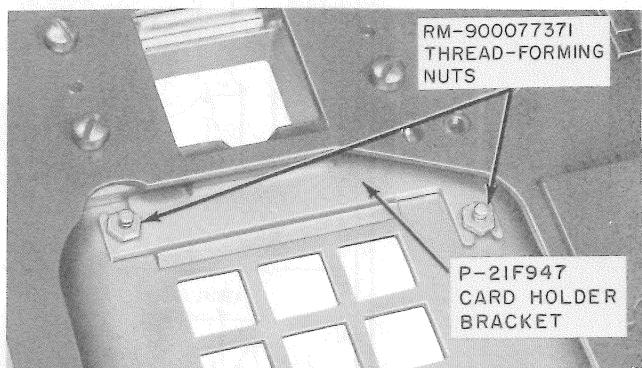

Fig. 30—Card Holder Bracket Installed (TOUCH-TONE Set)
- (4) Secure window and number card using the P-21F947 card holder bracket and two RM-900077371 thread forming nuts (Fig. 30).
- (5) Install dial housing.